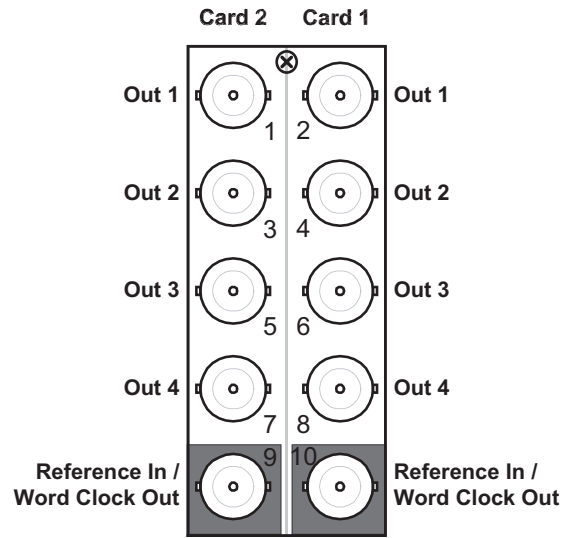

Figure 10 Cable Connections for the 8320AR-031 Rear Module
- **8320AR-031** Split Rear Module — Each rear module occupies two slots and accommodates two cards. This rear module provides four video outputs. Depending on your configuration, there can be a reference input or a second Word Clock output on the bottom BNC. (**Figure 10**)